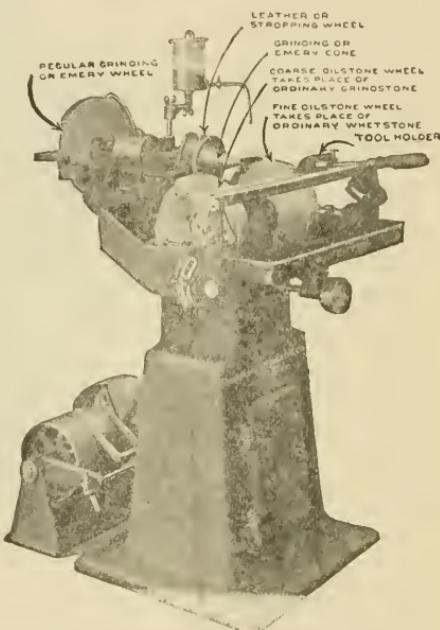

Fig. 53 - COMBINATION GRINDER.
55. General-- Until within the last few years, most of the grinding in wood working shops was done on grindstones, where a sandstone wheel was used as the cutting agent. This was a much slower process than the present oilstone grinder. It is still insisted by some that the grindstone gives better results. However, it is a fact that all progressive shops and factories are adopting the oil stone grinders for sharpening edge tools. The grinder in Fig. 53 is one of the several efficient types of this kind of machine now on the market.
56. Drive and Speed.-- The machine may be driven from a line shaft as provided for in Fig. 53, but is usually equipped with an individual motor, one horse power being all that is required for this machine. The upper arbor should run at a speed of 1650 r. p. m., the oilstone wheels at 230 r.p. m.
58. Tool Rest-- The tool rest table has a groove running parallel to the face of the stone. The tool holder with the tool is shown in Fig. 53, and operates back and forth in this groove.